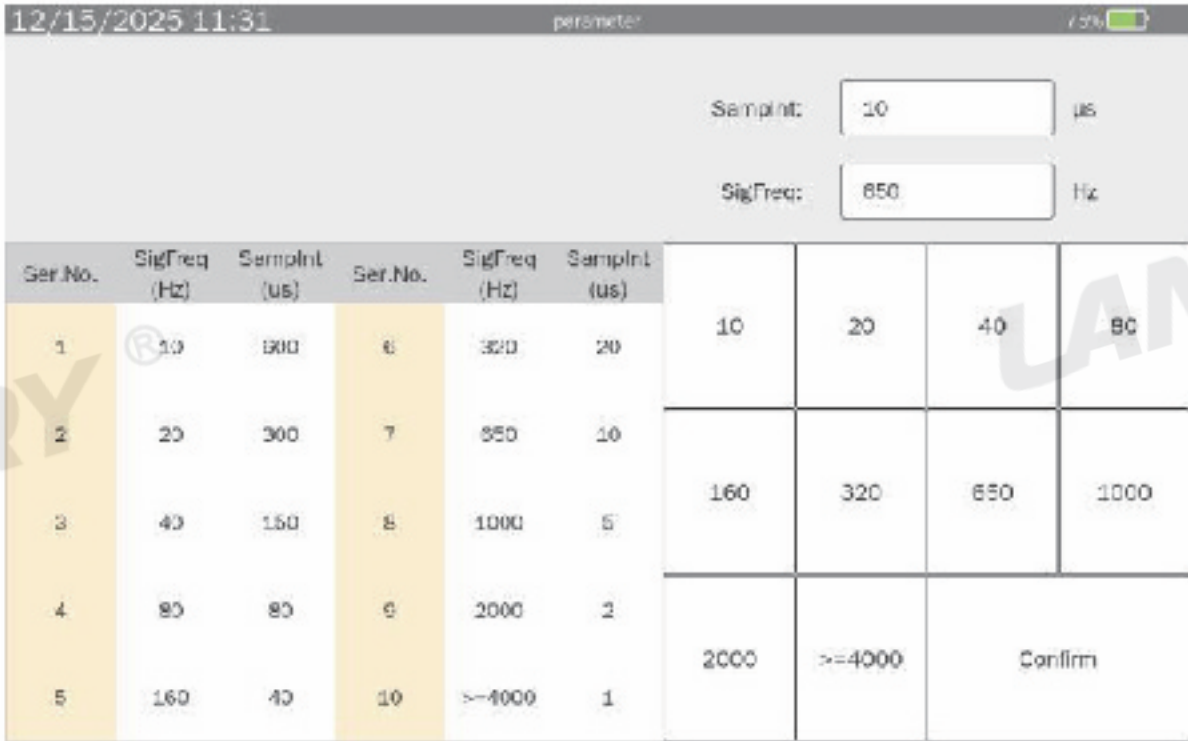

Figure 4-19 Input Sampling Interval Interface
3. Sampling interval: The sampling interval is the time difference between every two samplings of a signal. After clicking the option box, enter the input sampling interval interface, as shown in Figure 4-19. The input sampling interval interface includes a table of signal frequency and sampling interval correspondence (which can be set according to the frequency of the signal source), and a soft keyboard; The input range is 1-64000 μ s, with a default of 10 μ s;